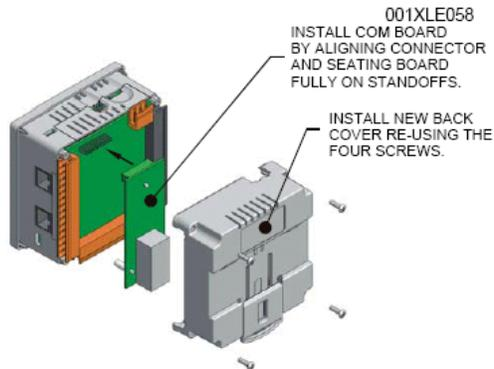

Figure 2 - Installing the COM Board in the XLE
3. Plug the XDAC board onto the 24-pin connector. Make sure all the pins are properly aligned (Figure 2).
6. Place the screw back into the hole and turn the screw slowly counter clockwise until it clicks into the threads. This prevents the screw from being cross-threaded. Now, turn the screw clock-wise until the cover is firmly secured. Repeat this process for all four (4) screws. Do not tighten the screws to more than 0.4Nm